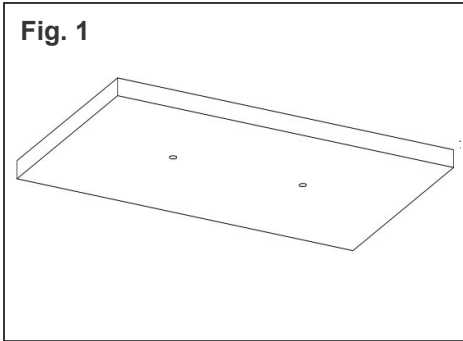

Fig. 1
1. Drill two holes (Fig. 1). Use appropriate hardware for application. A 7/32" hole is needed if anchors with the kit are used. The spacing between each hole is: